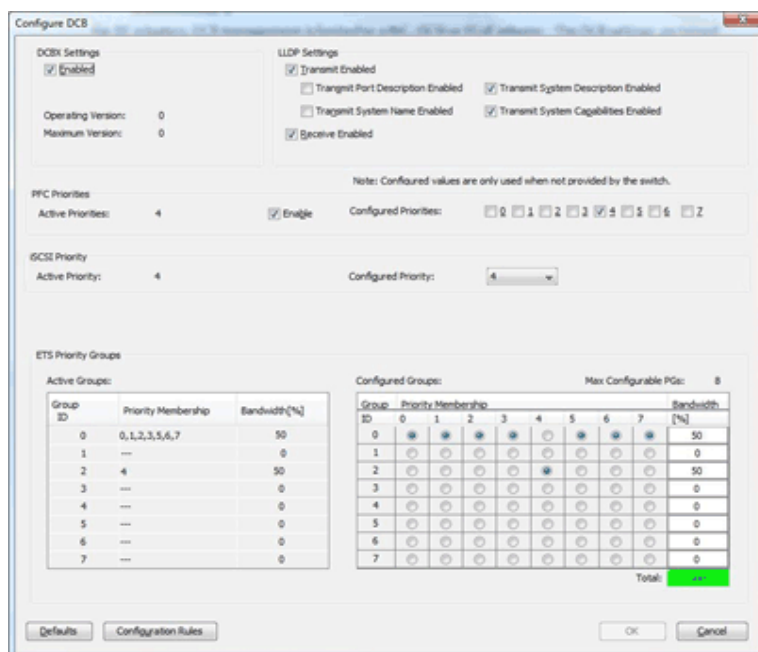

Figure 10-4 Configure DCB Dialog Box for NIC + iSCSI Adapter Ports (DCBX enabled)
3. Click **Configure DCB**. The Configure DCB dialog box appears (Figure 10-4 on page 213).